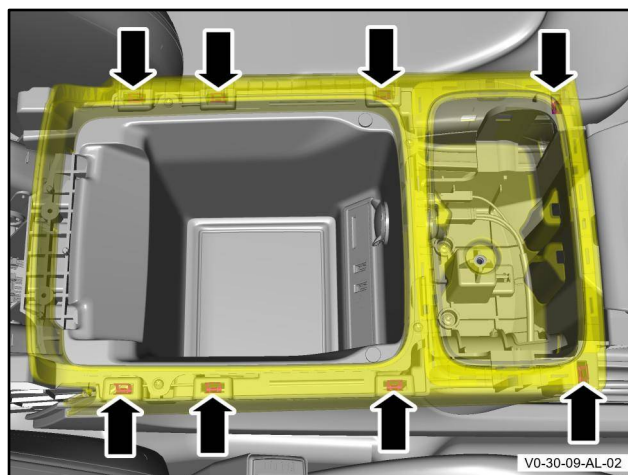

Figure 35
26. Install the cup holder assembly to the centre console assembly (refer to Figure 35).